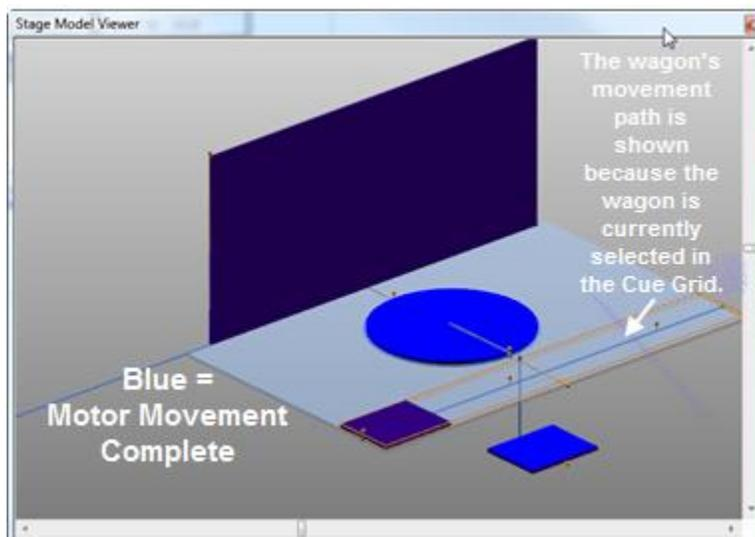

Figure 335
2. The motor(s) that have completed their movements in the Cue change to blue inside the **Stage Model Viewer** (Figure 335).